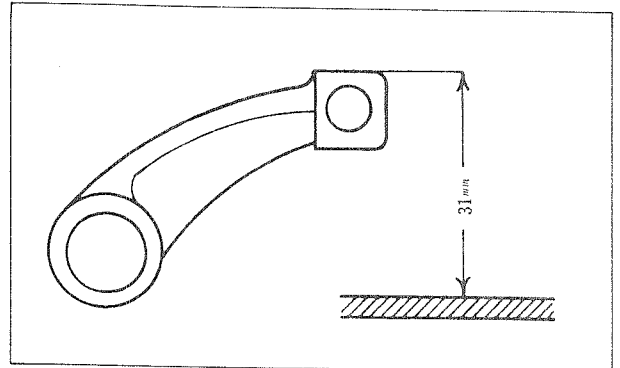

Fig. 15
2-5 Upper knife (Fig. 15)
- a) The top end of the upper knife driving arm shaft must go up 31 mm (1-7/32") above the throat plate surface when the upper knife has been brought up to its highest position as shown in Fig. 15.